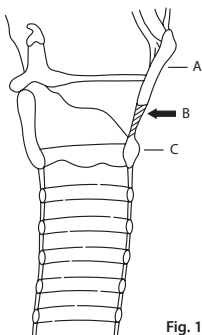

Fig. 1
1. Identify the cricothyroid membrane between the cricoid and thyroid cartilages. (**Fig. 1**)